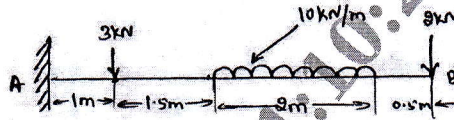

Fig. Q5 (b)
b. Draw the shear force and bending moment diagram for the Cantilever beam shown in Fig. Q5 (b). (10 Marks)